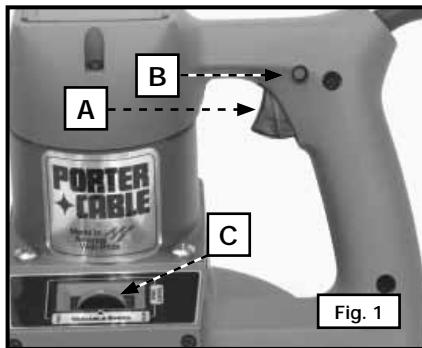

Fig. 1
2. Squeeze the trigger switch (A) Fig. 1 to start the motor. Release the trigger to stop the motor.
3. A lock button (B) Fig. 1 keeps the saw running continuously. To lock the saw "ON", squeeze the trigger as far as it will go. Push in the lock button and release the trigger. To release the lock, squeeze the trigger.
4. The 7724 is equipped with an adjustable variable-speed control. Adjust the speed by turning the control knob (C) Fig. 1.